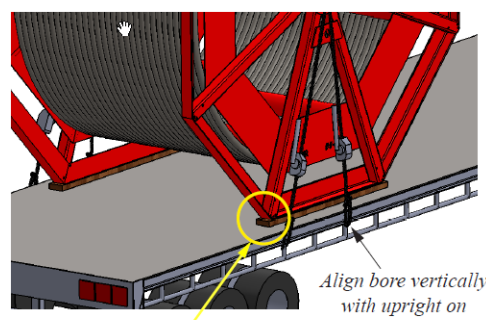

Figure 2: Wire Rope Reel on Timber on Trailer
- ✓ Reel **MUST** be positioned centrally on timber/rubber, which must extend a minimum 50mm longitudinally at both ends – See Figure 2 & 3.